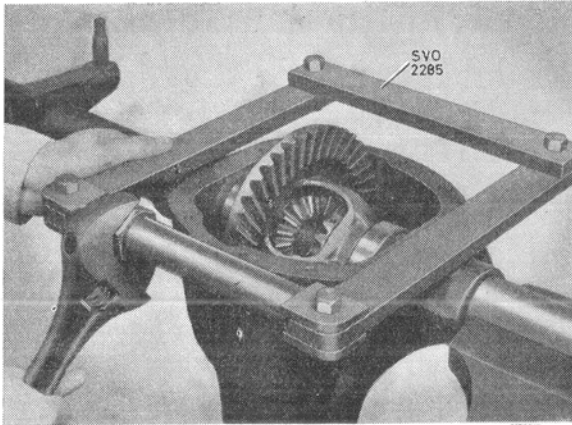

Fig. 24. Removing the differential.
5. Remove the inspection cover (42) from the rear axle housing.
7. Fit the tool SVO 2285 in the hole in the rear axle housing as shown in fig. 24. Unscrew the tension nut by hand as far as possible and then use a wrench on it until the differential carrier can be lifted out relatively easily. Do not tighten the nut too much since the housing may be deformed. Lift out the differential carrier with the crown wheel.